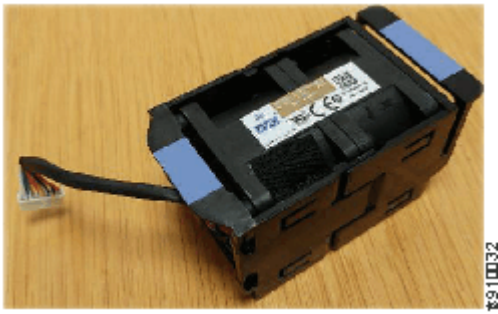

Figure 43. Replacement fan module
4. Remove the replacement fan module from its packaging. Figure 43 on page 83 shows an example of a fan module.